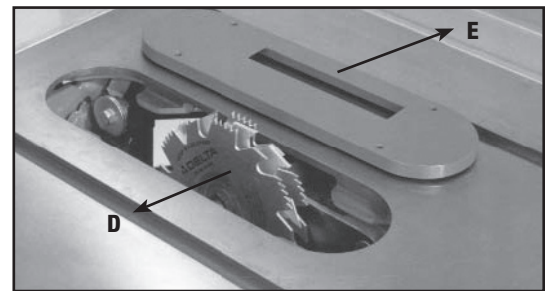

Fig. 47
2. Attach the dado head set (D) Fig. 47, to the saw arbor.
THE DADO HEAD SET TABLE INSERT (E) FIG. 47, MUST BE USED IN PLACE OF THE STANDARD TABLE INSERT. THIS IS AVAILABLE AS A SERVICE PART THROUGH A BLACK & DECKER SERVICE CENTER.